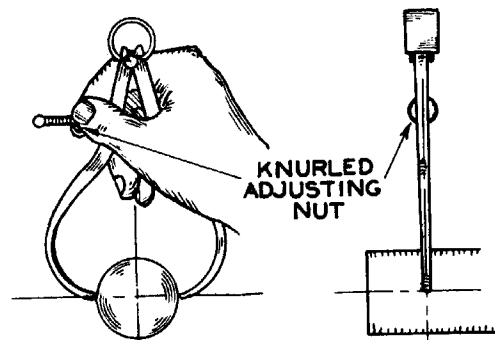

FIG. 4 TAKING A MEASUREMENT WITH AN OUTSIDE CALIPER
1. To measure a piece of work with the outside calipers, hold the calipers in the right hand and, with the thumb and forefinger, grasp the knurled adjusting nut (Fig. 4).
NOTE: At all times keep the calipers square with the work to be measured. A piece of round stock is calipered as shown in Figure 4.